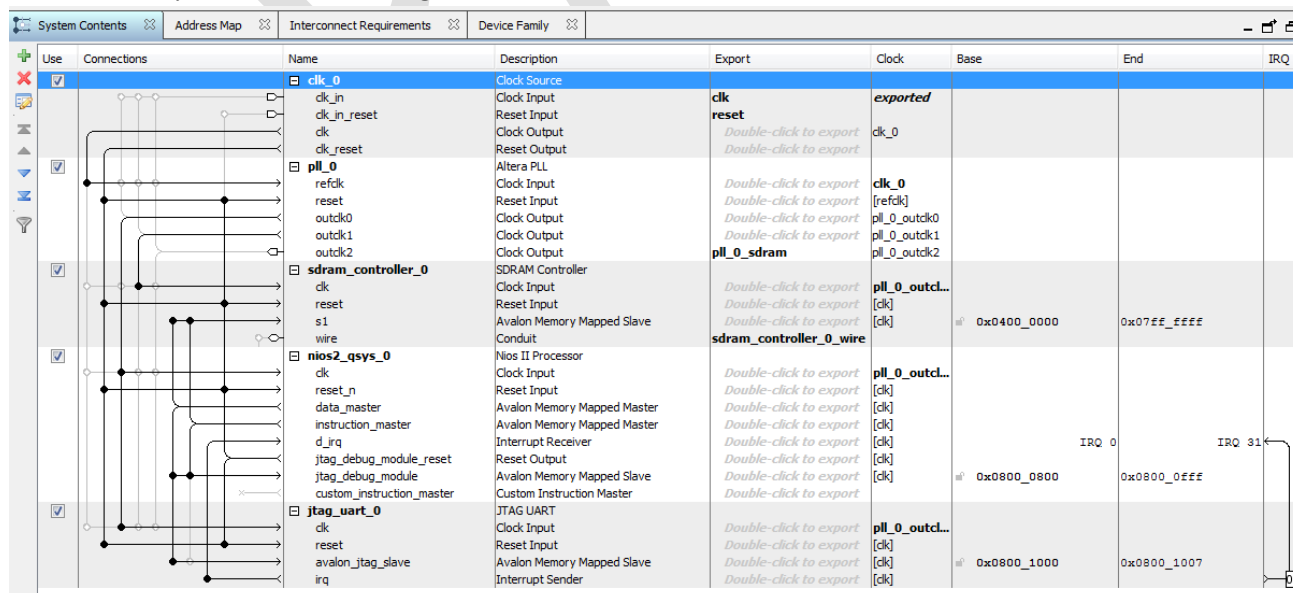

Figure 7-2. Basic Nios II System with SDRAM and JTAG UART
10. Connect the system as shown in Figure 7-2 below: